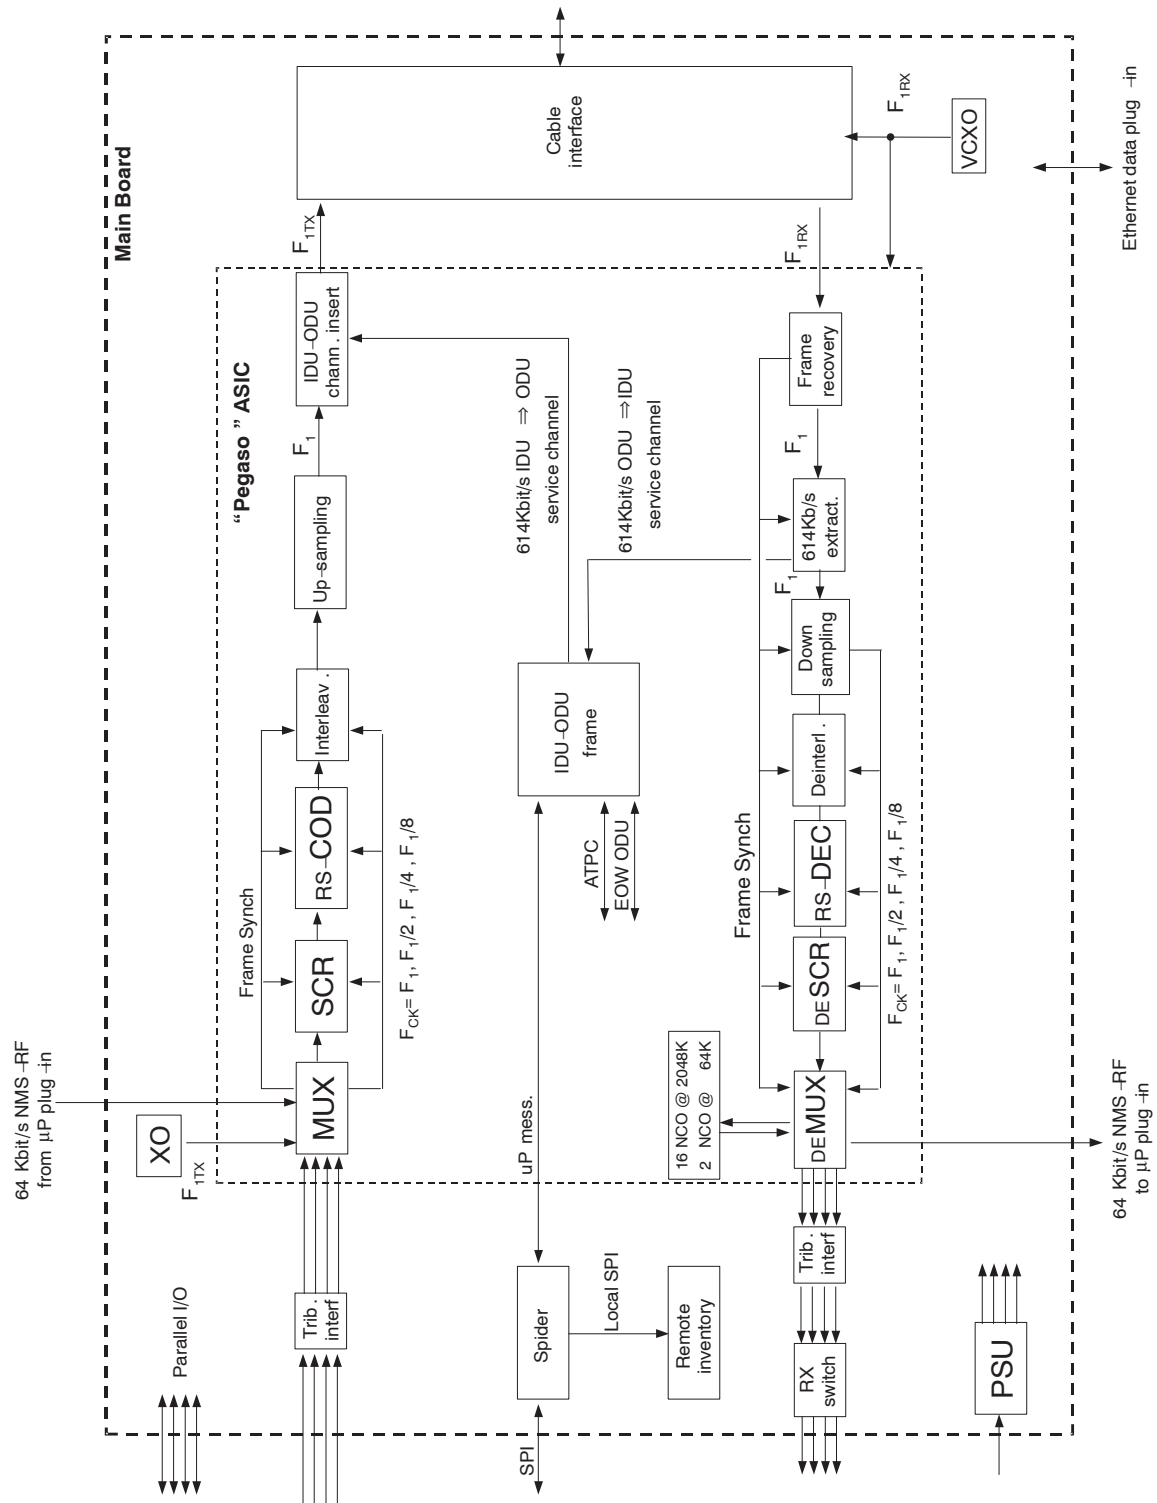

Fig. 70. Muldem Board block diagram
A block diagram of the muldem board is shown in Fig. 70 on page 186; most part of the digital functions are integrated into the "Pegaso" ASIC.
- Muldem board (the motherboard); see Fig. 70. on page 186